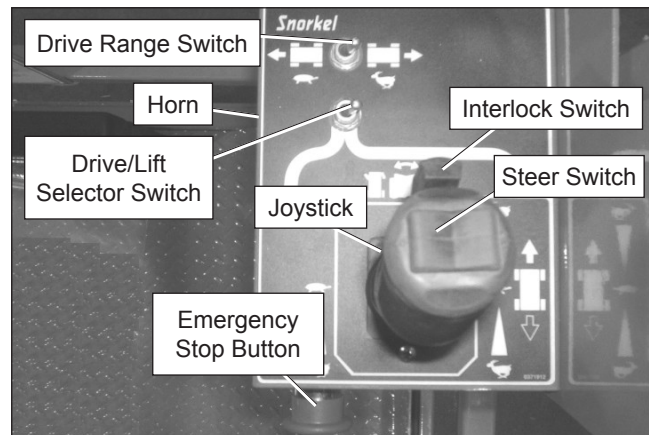

Figure 8.19 – Upper Controls
4. At the upper controls (refer to Figure 8.19), pull the emergency stop button outward.
The horn is operational when the machine is set up for operation from the upper control panel (refer to Figure 8.19).